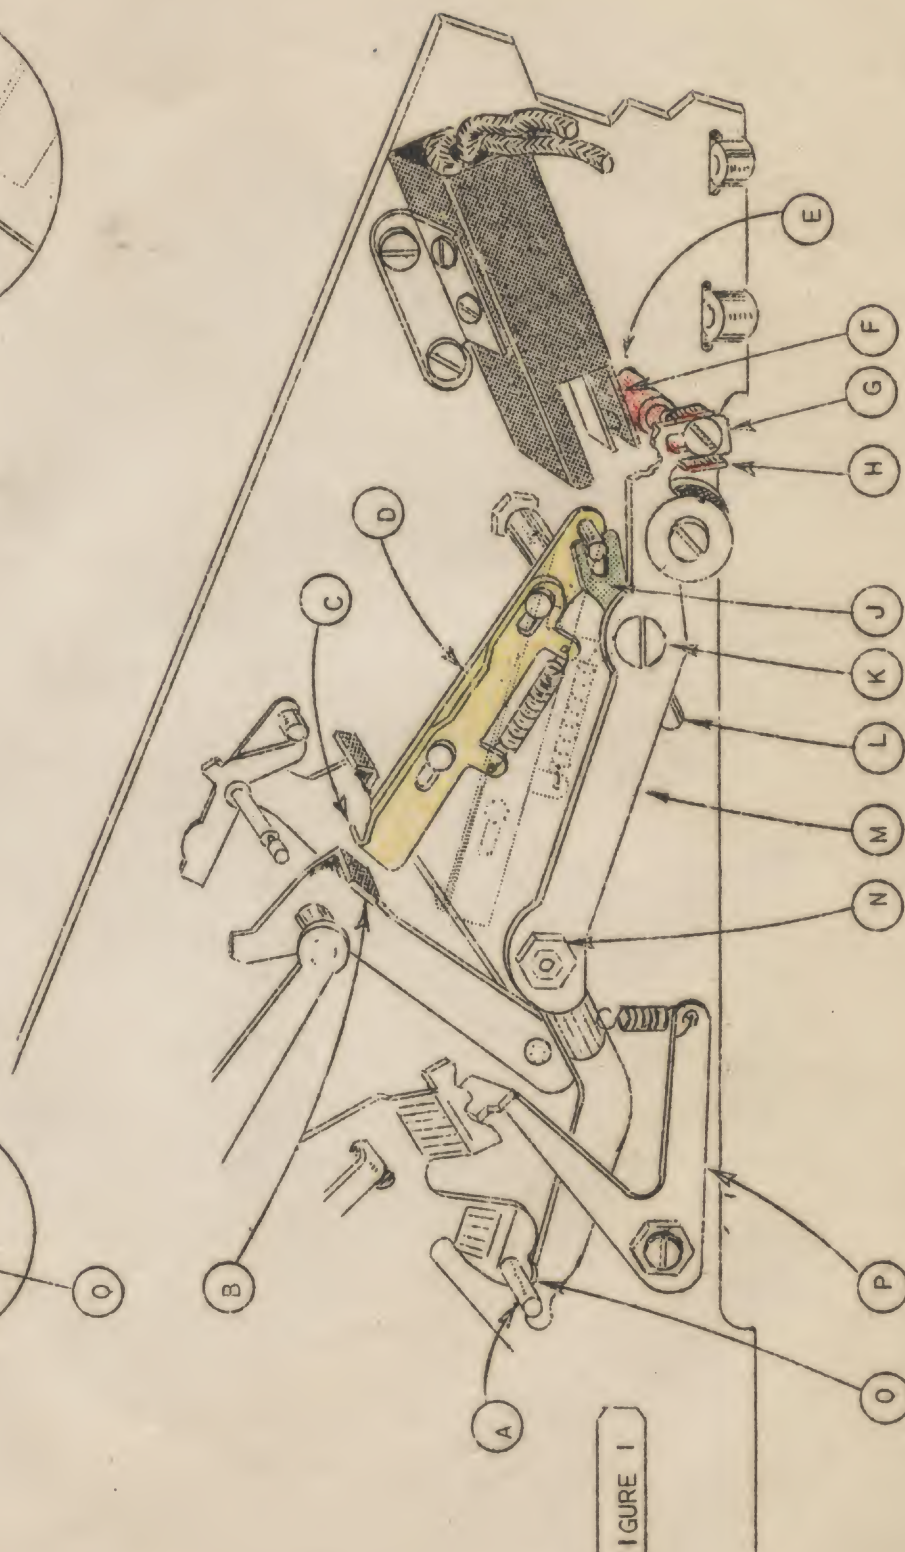

FIGURE 1
When the machine mechanism is neutralized, the clutch yoke stud (A) locates in the recess (Q) of the switch closing arm (M), the forward end of (M) positions downward, and the machine locator arm (D) positions in the path of offset (B). The pivoting movement of (M) causes adjustable slide (H) which is attached to (M) to also position downward and allow the lower start and stop switch contact blade (F) to break contact. See Fig. 1.
When the machine is operated, clutch yoke stud (A) positions at (R) or (S) see insert #1 Plate 3 and causes a pivoting movement of the switch closing arm (M); which raises the forward end of the switch arm. This causes the locator arm (D) to drop downward from the path of offset (B) as indicated by the dotted lines in Figure 1. This also causes adjustable slide (H) which is attached to (M) to move upward forcing the fibre roller (E) against the lower contact blade (F) and causing contact.
- 1 Adjust the switch closing arm (M) to the clutch yoke stud (A) by means of eccentric bushing $284\frac{1}{16}$ (N). When the clutch yoke click (P) is located in the neutral notch of the clutch yoke, stud (A) on the clutch yoke should seat in the recess (Q) of the switch closing arm (M). Lock the adjustment of the switch closing arm in place by tightening its lock nut. See Fig. 1.
- 2 Before installing the start and stop switch in the machine, adjust the bottom switch blade downward so that the distance between the two contact points is about $5/16$ ". This is necessary since the tension of the lower blade of the switch is of value in restoring the switch closing arm recess to its neutral position against stud (A).
- 3 With the clutch yoke in neutral position, loosen screw (G) and adjust slide blank (H) upward or downward until the switch contact points are positioned approximately $1/32$ " apart. After obtaining this adjustment, tighten screw (G) securely.
- 4 With the mechanism located in neutral, locator arm (D) should be in a raised position with the top of lug (C) and the top of locator arm offset (B) aligned. See insert #2 Plate 3. When the machine is being operated either in addition or subtraction, the locator arm (D) should be located in its down position as shown by the dotted lines. To secure the proper adjustment of the locator arm, loosen screw (K) and move arm (J) upward or downward to suit and then tighten screw (K) securely.